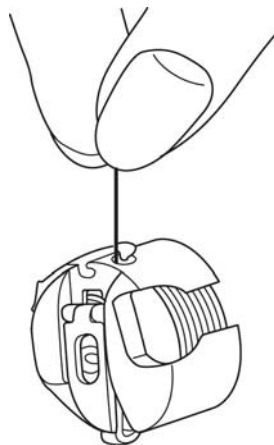

Fig. 20
- Upon sharp upward movements of the hand, the thread must run off gradually (fig. 20).